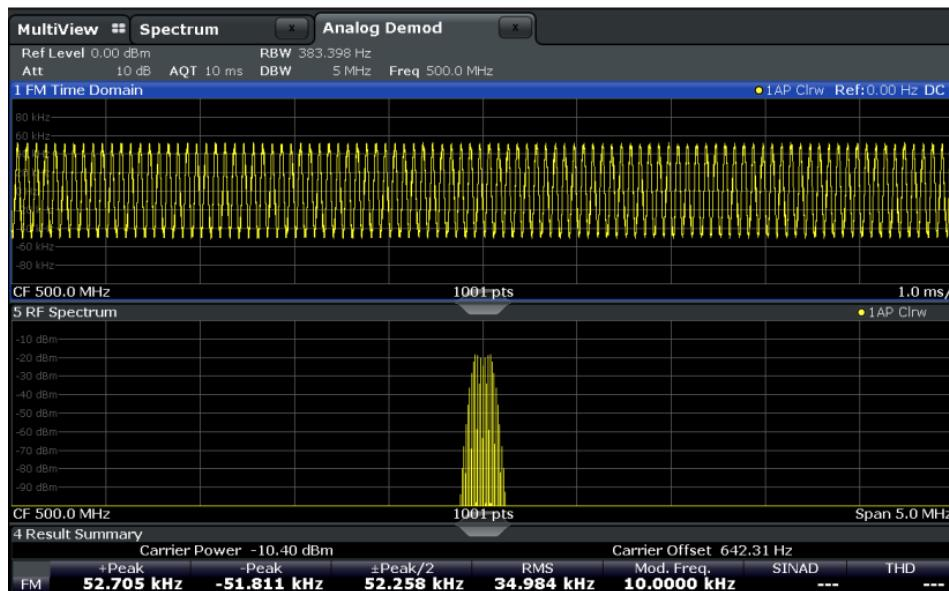

Fig. 8-3: RF spectrum of FM signal with default demodulation bandwidth = 5 MHz
- As you can see in figure 8-3, the default demodulation bandwidth of 5 MHz is much too large - the actual signal takes up only a small part of the displayed range. That means that any noise or additional signals apart from the FM signal of interest may be included in the measured results. Select the "Demod BW" softkey and reduce the value to 200 kHz.